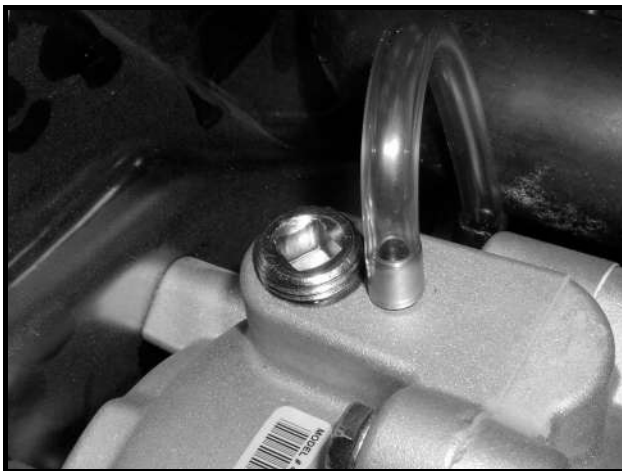

Figure 14-21 Lubrication Fill Plug and Vent Tube
20. Remove the transmission fill plug, and fill the transmission with the correct amount of appropriate lubricant (**Figure 14-21, Page 14-15**). **See Lubrication Change for Front Differential, Transmission, and Rear Differential on page 10-11.**